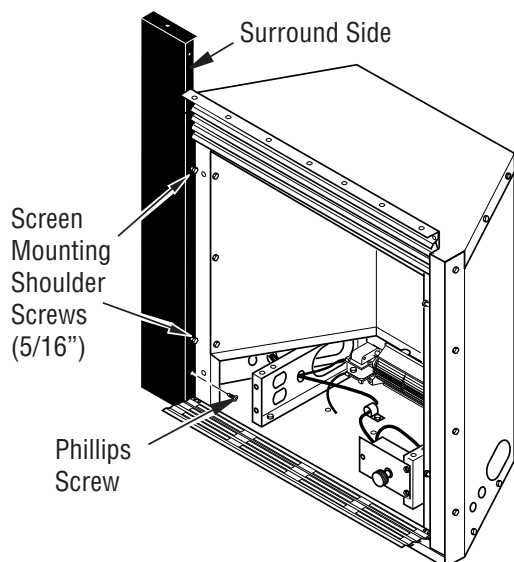

Figure 6 - Attaching Left Surround Side Panel
3. Align holes in left surround side panel with screen mounting screw holes. Replace 5/16" screen mounting shoulder screws removed in step 1 (*see Figure 6, Page 9*). Do not tighten. Install Phillips screw in bottom (*see Figure 6, Page 9*). Repeat for right side.